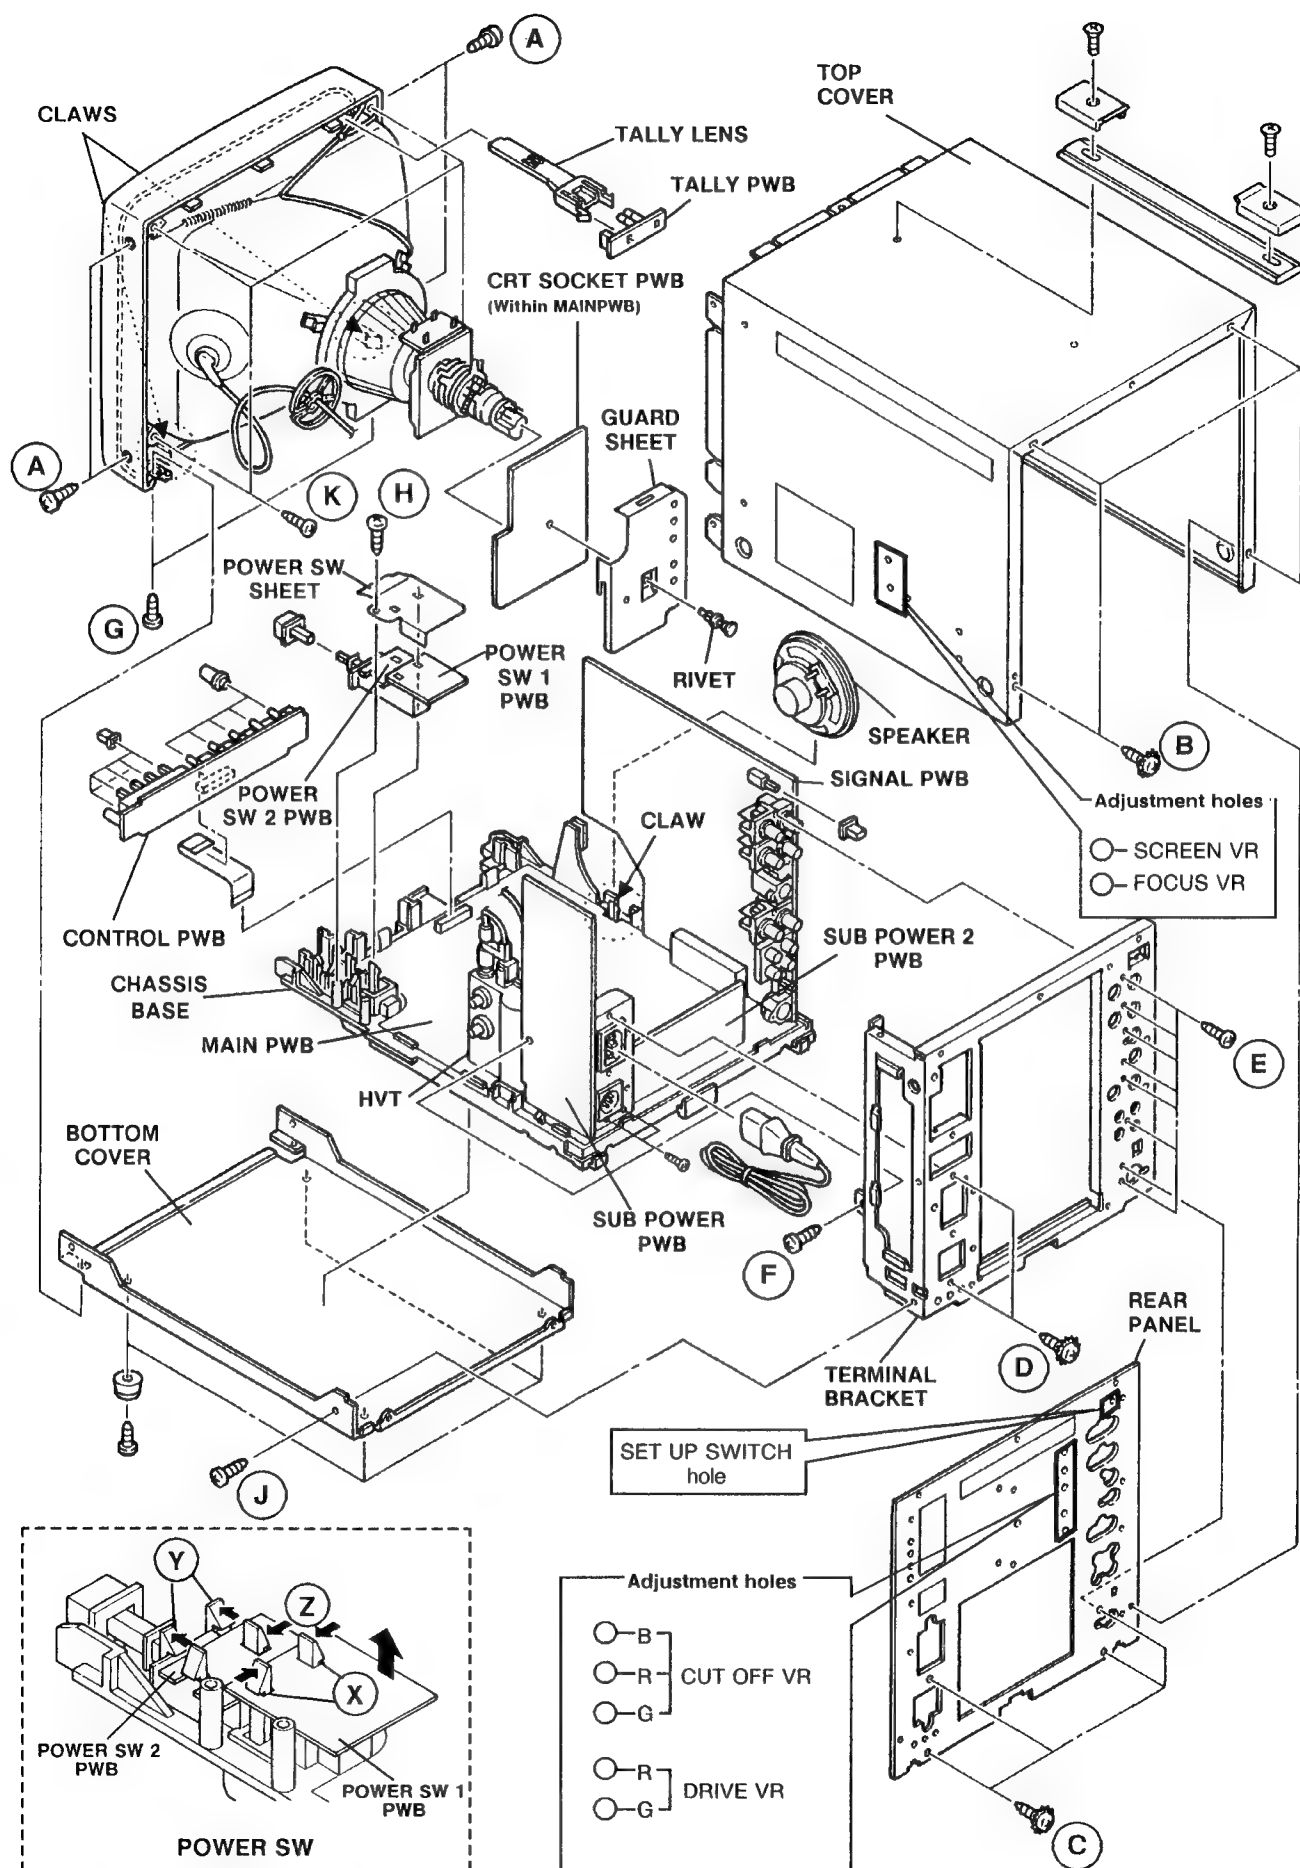

Fig.1
- 1. Take out the screw (H).
- 3. Press the claws (Y) and (Z) to detach the POWER SW 2 PWB. Then slightly raise the POWER SW 2 PWB.
- 4. The POWER SW 1 PWB can be removed by raising it after pressing the claws (X). (see Fig. 1)